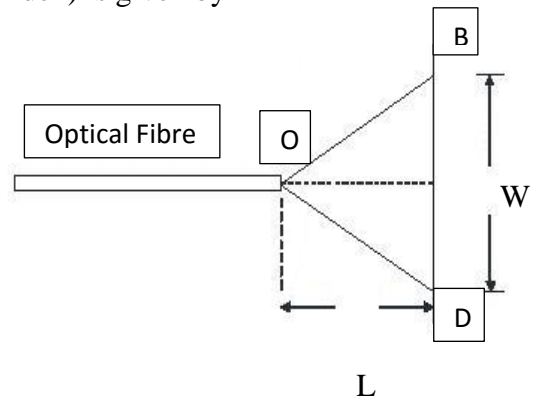

Figure 8.1
As shown in figure 8.1, light from the end of the optical fiber 'A' falls on the screen BD. Let the diameter of light falling on the screen BD=W, Let the distance between end of the fiber and the screen AO=L. knowing W and L, the N.A can be calculated and substituting this N.A value in Eq (2), the acceptance angle 'θ' can be calculated.